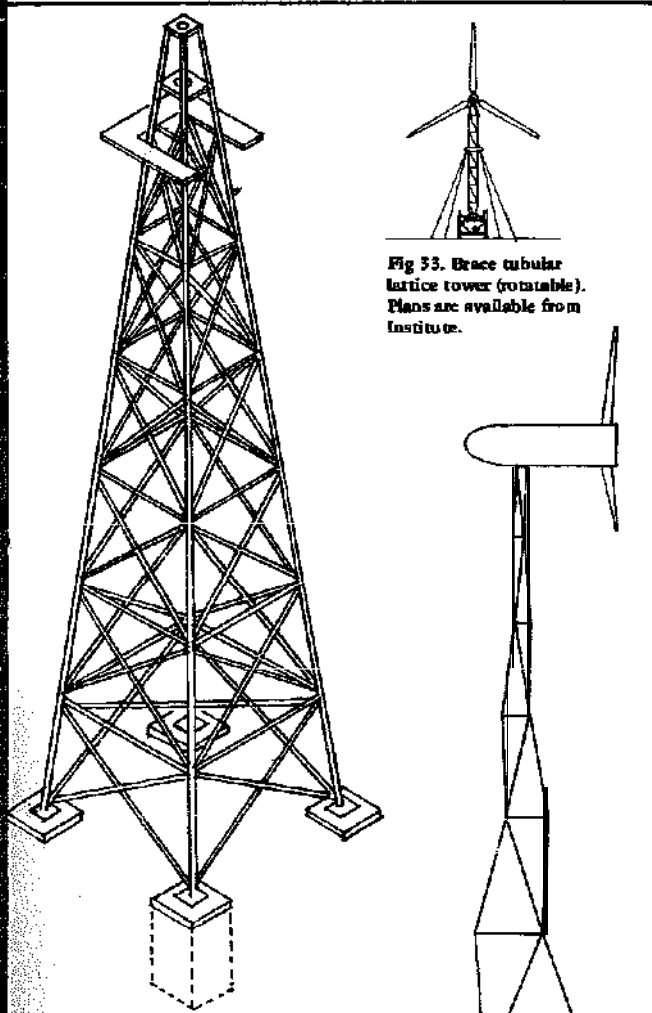

Fig 33. Brace tubular lattice tower (rotatable). Plans are available from Institute.
- d) Rotating mast. Instead of just pointing the machinery at the top of the mast into the wind, the whole mast can be rotated. The Brace Research Institute's 32 ft diameter airscrew windmill is oriented in this way (see Fig 33). But it does not turn automatically, and has to be moved by means of a hand crank driving a truck crown wheel and pinion at the base. This method is obviously not as suitable as the automatic control offered by systems a, b and
The type of tower chosen should be one that calls for the minimum of technical skill in construction. A simple lattice tower with three or four legs, depending on relative costs, can be made of timber, as in Jim Sencenbaugh's self-build design (Fig 32), or one of the Brace timber lattice masts (Fig 33). Or, more commonly, of steel (Fig 34)—although this is not so suitable for the self-builder, unless an old electricity pylon or a floodlight, railway signals or radio mast can be scrounged.